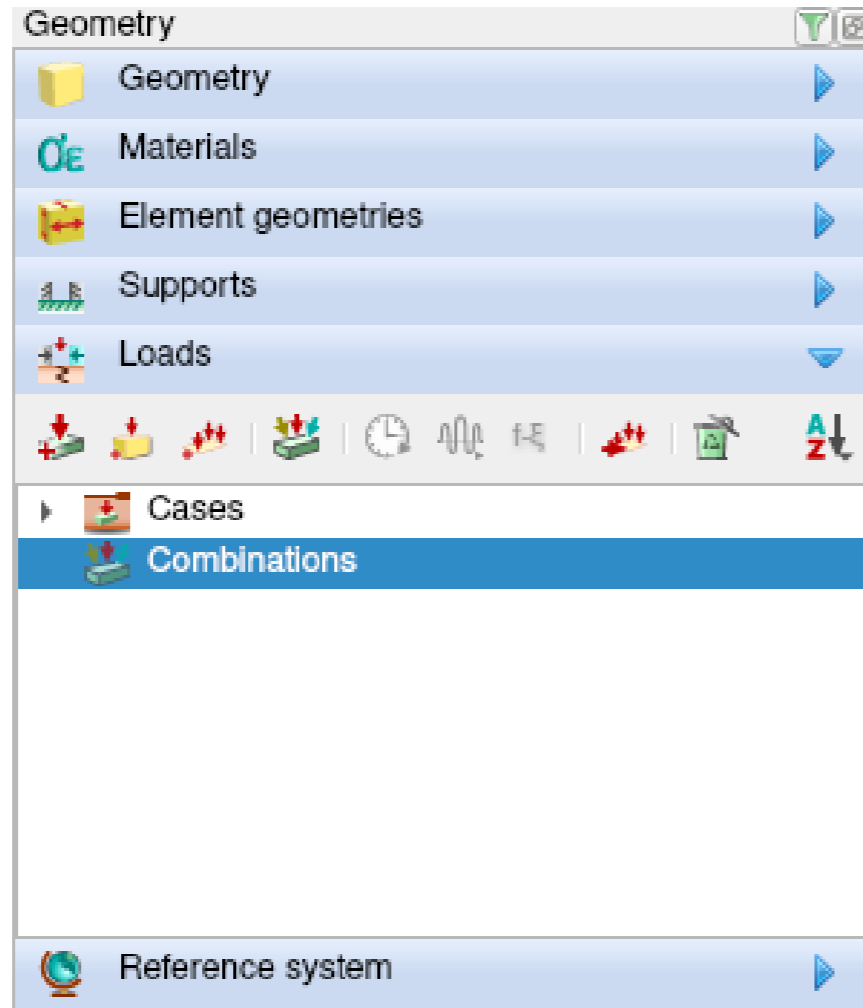
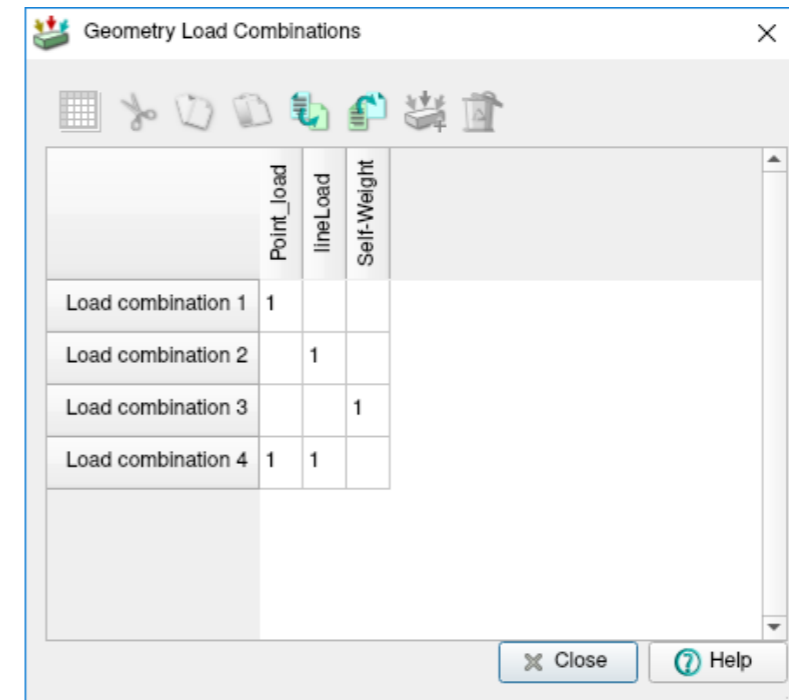

Figure 23: Geometry browser - load combinations
Figure 24: Load combinations
**Main menu** → Geometry → Loads → Open geometry load combinations table  [Fig. 23] → Add geometry load combination  [Fig. 24]